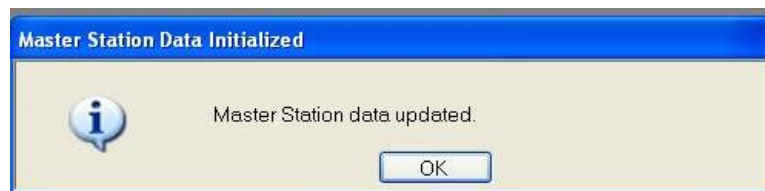

Figure B-17: Master Station Data Initialized Window
4. Click **OK** to proceed. If initialization is successful, the *Master Station Data Initialized* window is displayed indicating "Master Station Data updated" (Figure B-17).